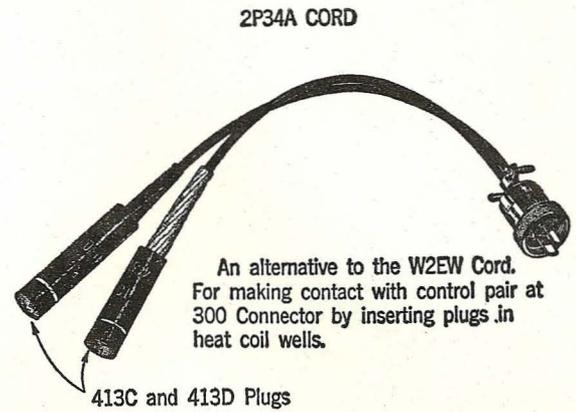

Fig. 16
6.03 The 2P34A Cord is illustrated in Fig. 16.